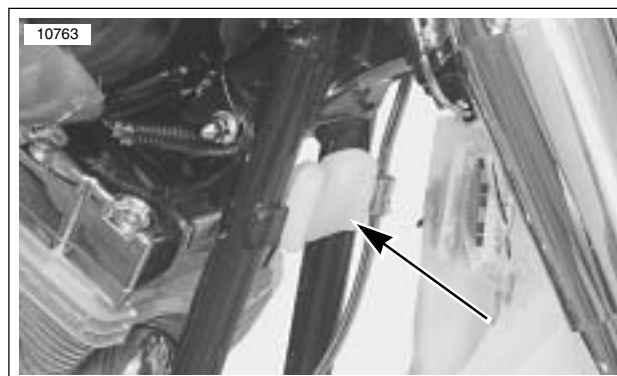

Figure 7-30. Plastic Crating Strap Bracket
- See Figure 7-30. After crating straps have been removed, make sure to remove the plastic crating strap bracket from the vehicle.